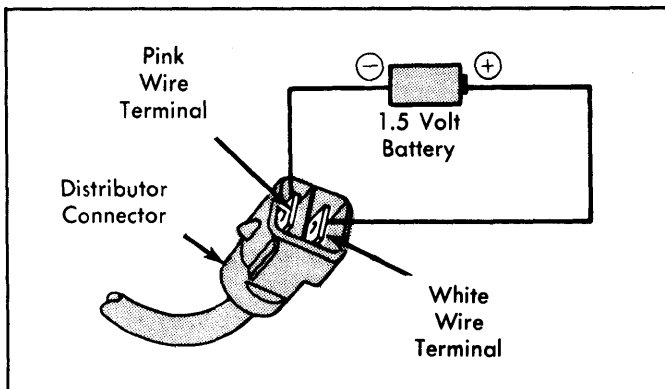

Fig. 4: Checking Coil Voltage with 1.5 Volt Battery (Toyota Shown)
2) Unplug wiring connector from distributor. Using a 1.5 volt dry cell battery, connect positive battery pole to White wire of 2-pin connector. Connect battery negative pole to Pink wire terminal. See Fig. 4.
3) Again check oil voltage with the 1.5 volt battery installed. Voltage should be approximately zero (0) volts. Turn ignition off, remove test equipment, and reconnect wiring.